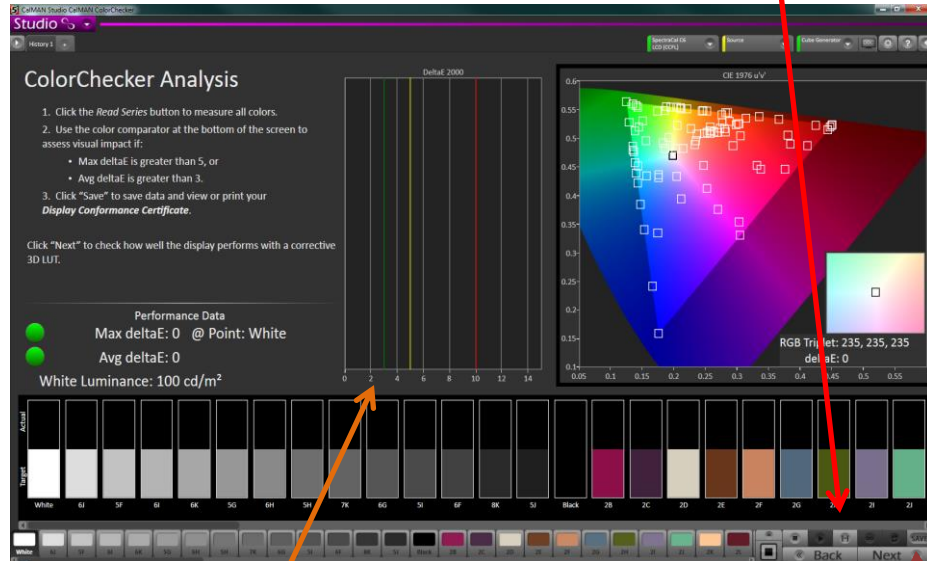

Figure 4. CalMAN ColorChecker Analysis page in the ColorMatch workflow.
- a. On the *ColorChecker Analysis* page (Figure 4), click the *Read Series* button to start the display performance test.